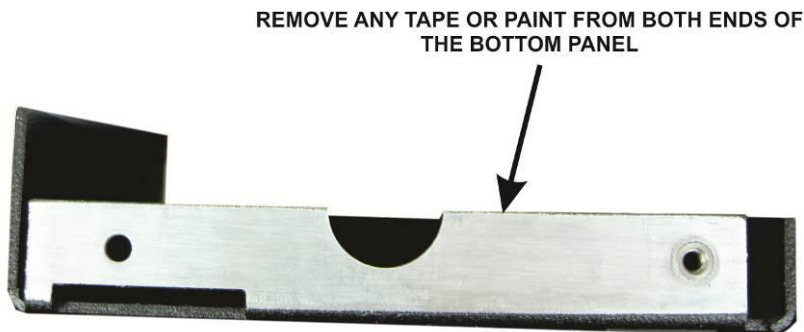

Figure 44. Rear Panel Ends Cleaned.
- Unwrap the bottom panel and clean away tape or paint from each end as shown in Figure 44.